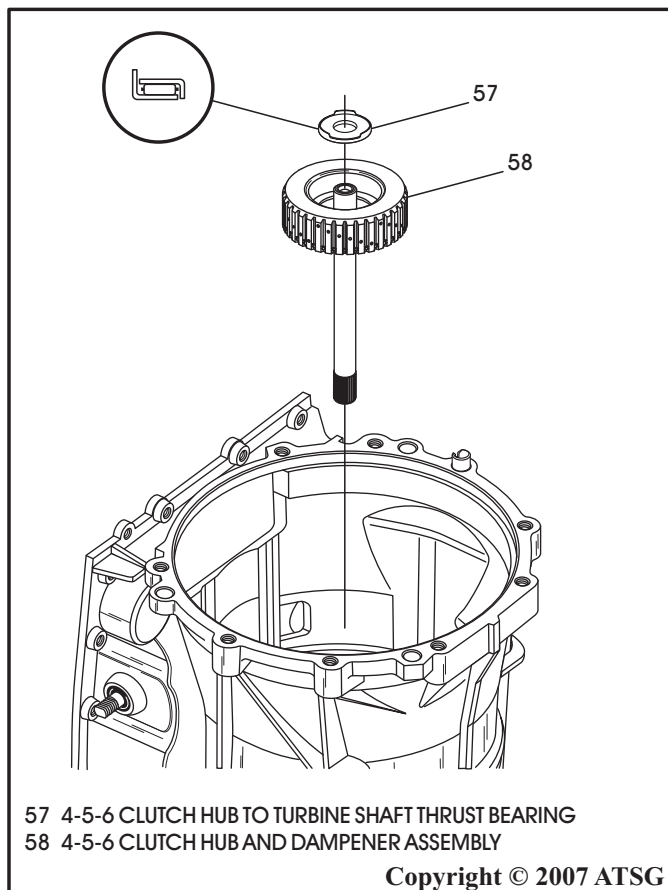

Figure 159
14. Install 4-5-6 clutch hub and the dampener assembly, as shown in Figure 159.
15. Install the 4-5-6 clutch hub to turbine shaft thrust bearing in direction shown in Figure 159.